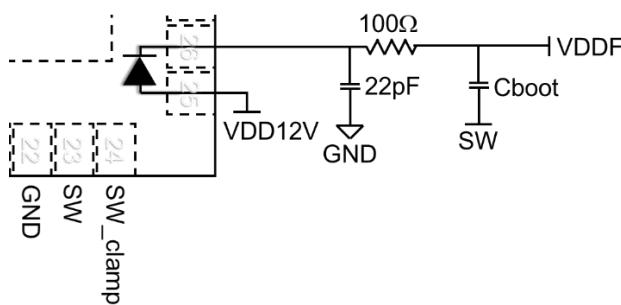

Figure 4: Filter for high frequency spikes on DiodeK.
DiodeK (Pin26): Cathode of the floating, high speed diode. To be connected to the bootstrap capacitor. Please note that this pin experiences the bootstrap voltage with the high dynamics switching node (SW) voltage superimposed, including the HS switch reverse conduction during t_{d_ON} , in case of negative inductor current. Therefore, to prevent overvoltage and ensure a reliable operation, an RC filter must be added to this pin, as shown on Fig. 4.